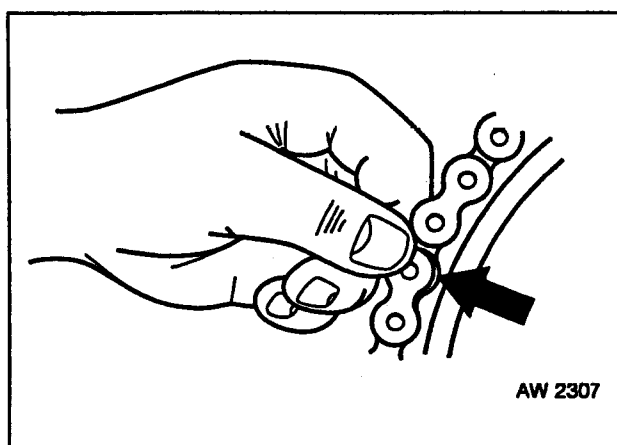

Fig 11.9 Chain Wear Illustration
- a. Sprocket wear rate is greatly increased if the chain is beyond its useful life. It is of the heavy duty 'O' ring sealed type and should be checked periodically. The only maintenance required is to spray periodically as required with a proprietary chain spray suitable for 'O' ring chains to keep the rollers lubricated. If the chain can be lifted away from the rear sprocket any more than illustrated in Fig 11.9 the chain should be replaced.